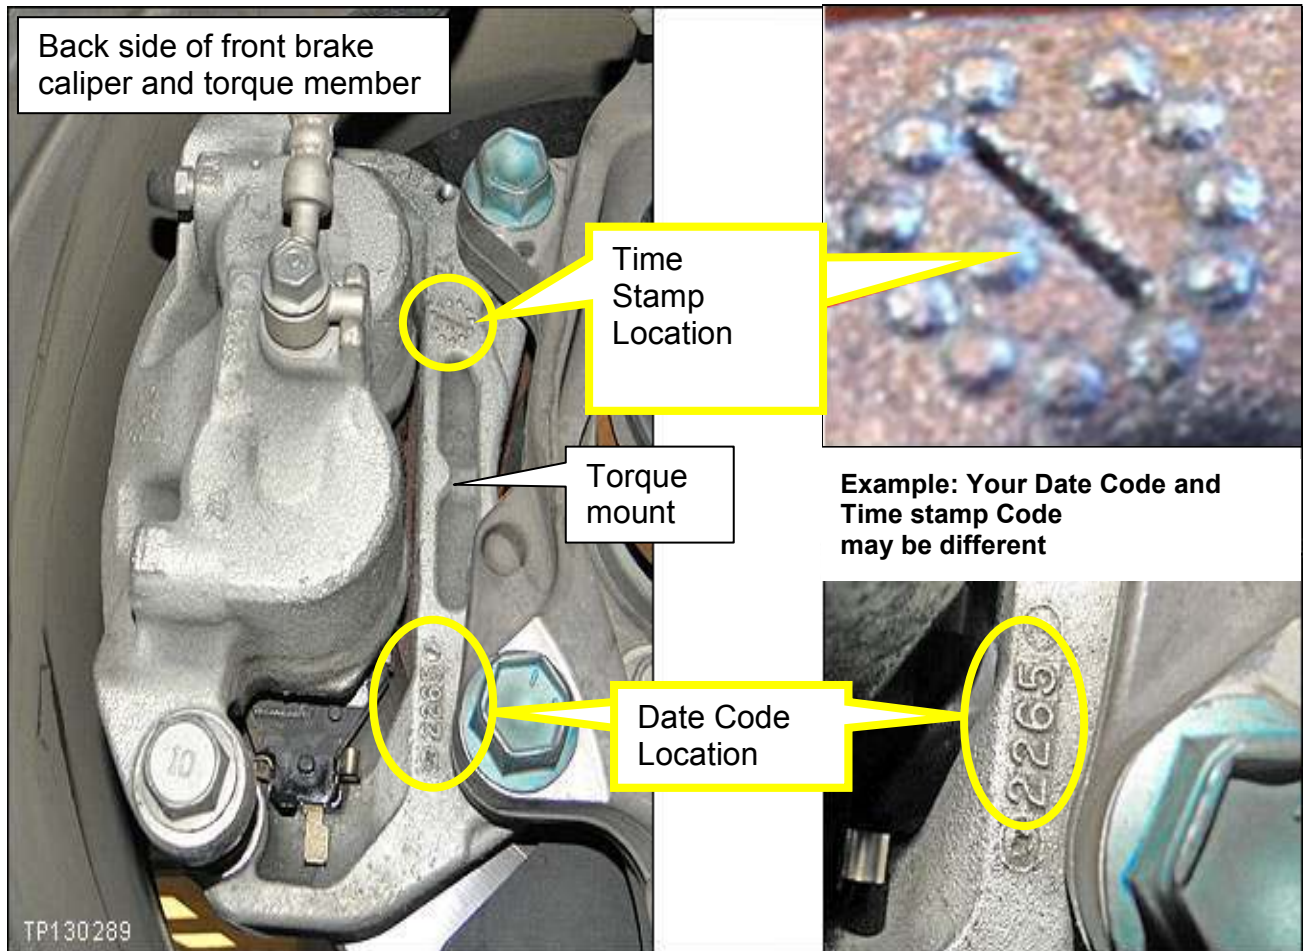

Figure 1
2. On the back side of the front brake torque members (both sides) locate the "Date Code" and "Time Stamp". (see figure 1 below as an example of where to find these items).